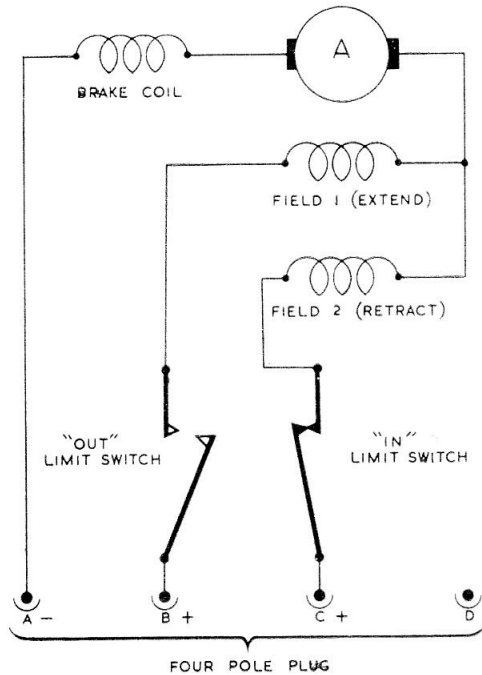

Fig. 2. Circuit diagram
**16.** Installation should be in accordance with the appropriate aircraft handbook. For details of internal connections, see fig. 2.